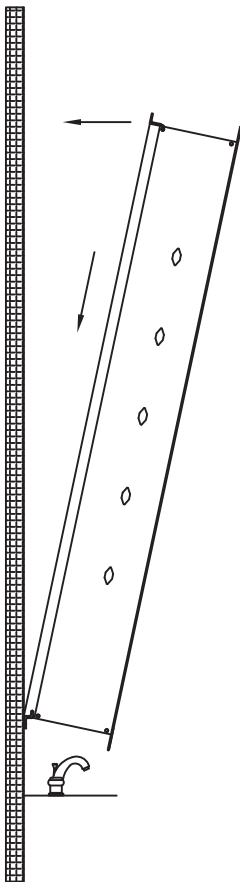
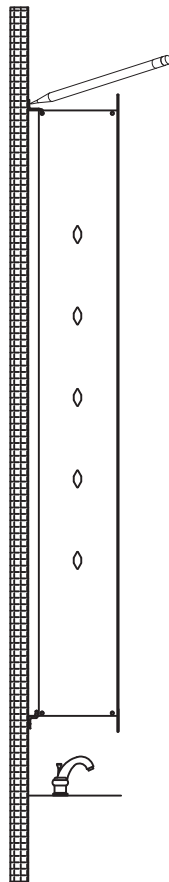

Fig 11
Fig 12
5. Place cabinet into wall bracket (Fig 11). Mark hole locations of z-clips (Fig 12). When determining location, it is recommended that at least one z-clip be located at a stud . Detach cabinet and drill 8mm hole if needed for anchor, and place in anchor in hole.